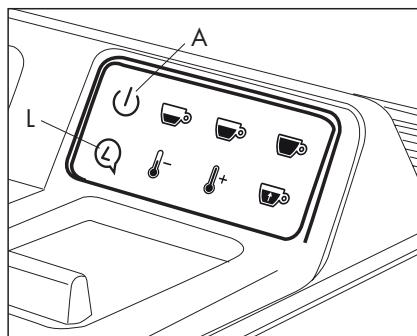

Fig. 9
- Press button (L) to select the language.
- Press button A to confirm the language selected. (Fig. 9)